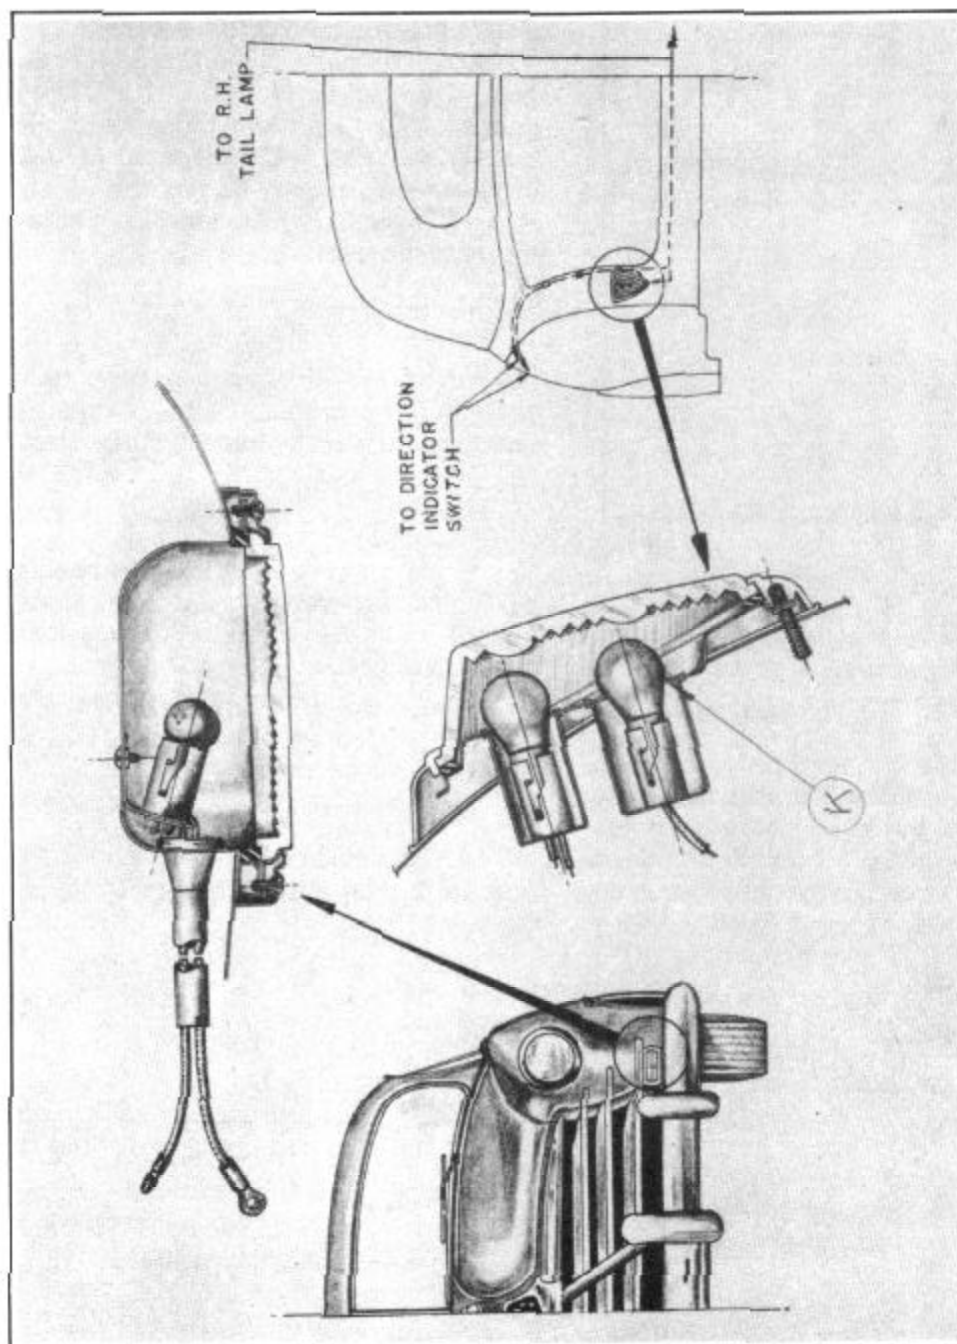

FIGURE 30
1. Assemble the direction indicator light sockets to tail lamps by plugging into the provided opening shown at K, Figure 30, according to the following identification:
2. Clip rear indicator wires to deck opening trough by existing clips and follow the trough to the left corner of deck opening as shown in Figure 30.
1. Remove the front fender parking light lens and bezel assemblies by extracting the two screws on face of bezel. (See Figure 30).